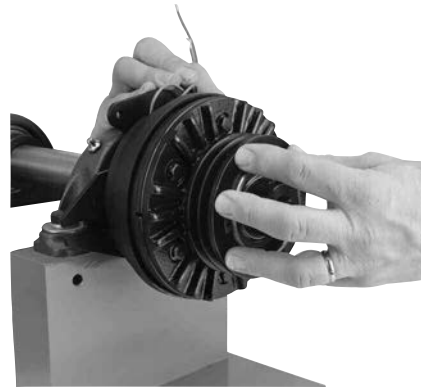

Figure 51
24. Reinstall the clutch assembly on the shaft, placing the key in its keyway. (See Figure 51)